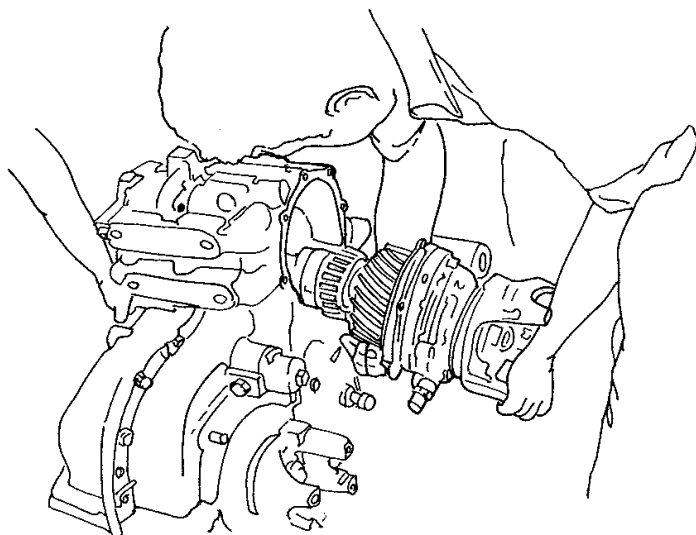
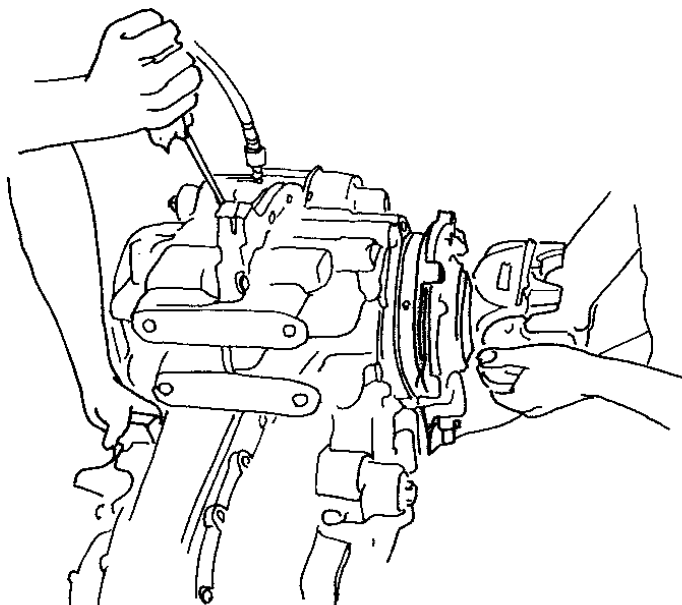

Figure 15 Install Input Shaft Assembly
Figure 16 Rotate Output Shaft Yoke and Apply Pressure with Screwdriver
29. Install the input shaft assembly (Figure 15). Use an assistant to rotate the output yoke while holding pressure against the mating range gear with the screw driver to aid installation of the input shaft assembly (Figure 16).